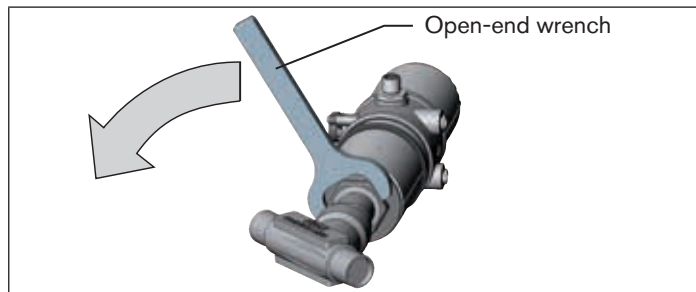

Fig. 5: Rotating with open-end wrench
- ▶ Rotate the actuator module in the specified direction only (see "Fig. 5").